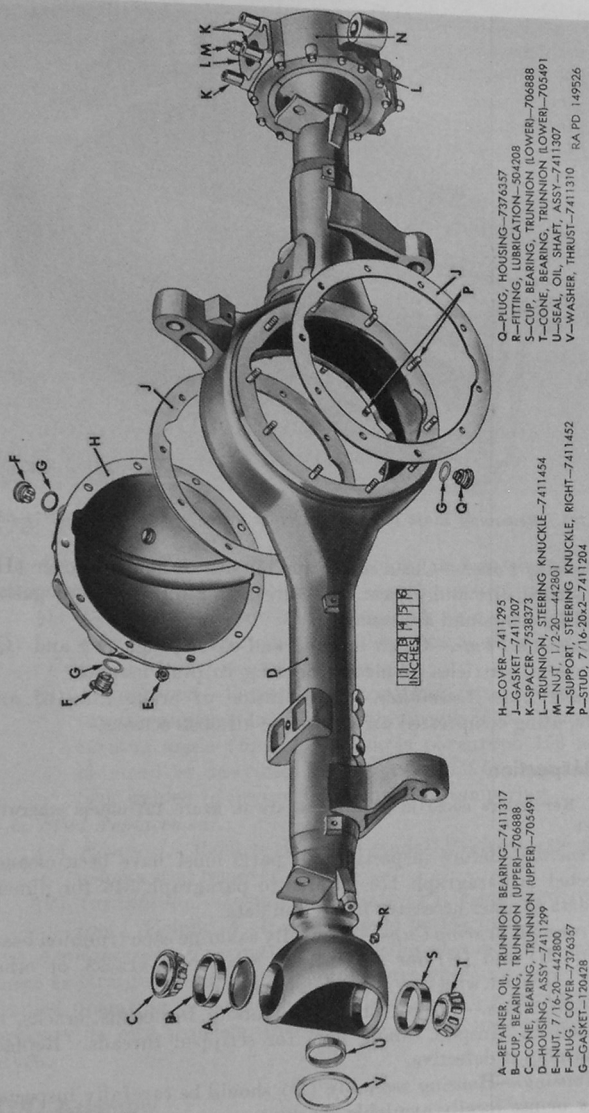

Figure 121. Front axle housing and associated parts.
d. Steering Knuckle Trunnion.—Inspect steering knuckle trunnions (HH) for distortion or other damage. Inspect shim surface for smoothness. Replace with new part if damaged or clean up shim surface with fine file.
e. Steering Arm.—Inspect steering arm (Q) for bent or other damaged condition. Inspect drag link tapered hole in end of arm for wear due to loose stud. Inner or drag link end of arm has an upward offset of twenty-seven thirty seconds of an inch, when shim surface is flat on a face plate. Replace with new part if bent or otherwise defective. Clean up shim surface with fine file if necessary. If trunnion which is pressed into steering arm requires replacement, it can be removed and installed using an arbor press.
f. Trunnion Bearings.—Inspect trunnion bearing cones ((C), fig. 121) for chipped, cracked, or worn condition. Replace with new parts if damaged or worn.
g. Seals and Retainers.—Felt type oil seal (T), rubber dust seal (U), and dust seal spring (V) should be discarded and new parts installed. Inspect outer oil seal retainer (S), dust seal retainer (W), and inner oil seal retainer (X) for bent or damaged condition that
Note. Key letters noted in parentheses are in figure 121 unless otherwise indicated.